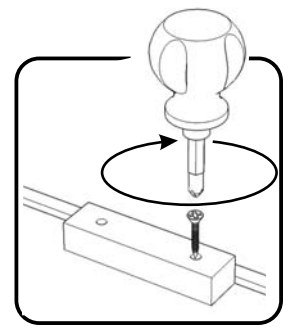

Figure 2
Attach Cleat (L) to Top (A) with Wood Screws (short) into pre-drilled holes. (See Figure 2)